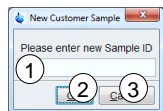

Figure 5-36: New Customer Sample dialog
In the subsequent dialog (Figure 5-36) enter a new **Sample ID** (Figure 5-36 (1)) (see chapter 2.2, permitted characters) and click **OK** (Figure 5-36 (2)) save the sample and to close the dialog. Click **Cancel** (Figure 5-36 (3)) to abort copying a standard sample to a new Customer Sample.